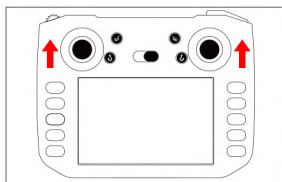

Figure23
1. Simultaneously pushing up the remote control joystiker (Figure 23)